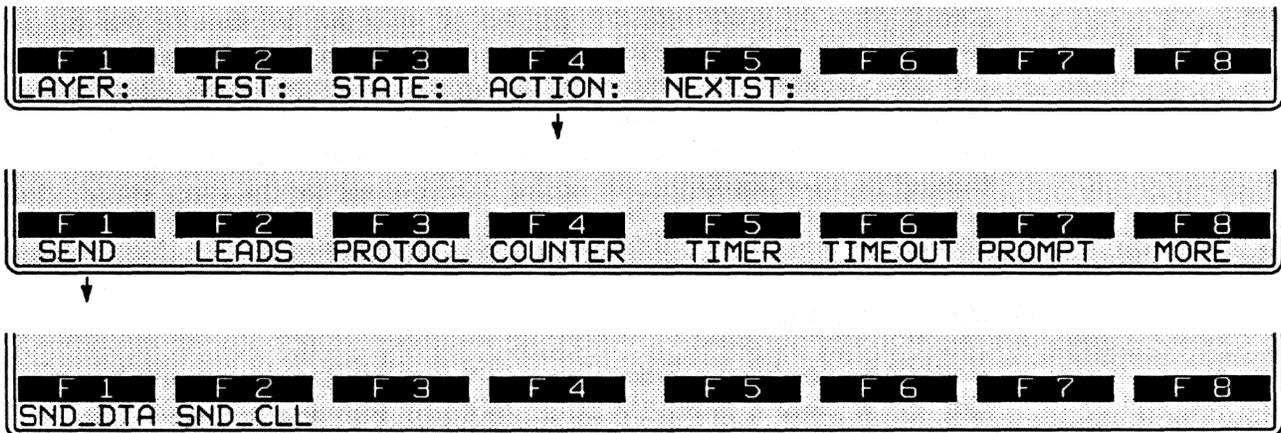

Figure 32-6 Two separate *SEND* actions are used to transmit either in data-transfer or call-setup format.
1. *Data-transfer send.* Figure 32-6 shows the two send options that branch under the SEND softkey. If you press SND_DTA, the keyword SEND is written to the spreadsheet screen and this prompt appears below the screen: "Enter Transmit String." This is a normal Layer 1 send action and it is appropriate whenever you are in Data Transfer state according to the X.21 protocol.
2. *Call-setup send.* The *SEND* softkey includes a *CALL_SETUP_SEND* function that sends text messages always in a code and format that is consistent with X.21 call-setup protocol. Press the *SND_CLL* softkey (Figure 32-6) or type *CALL_SETUP_SEND* followed by space to begin the entry. Enter the string inside of quotation marks.